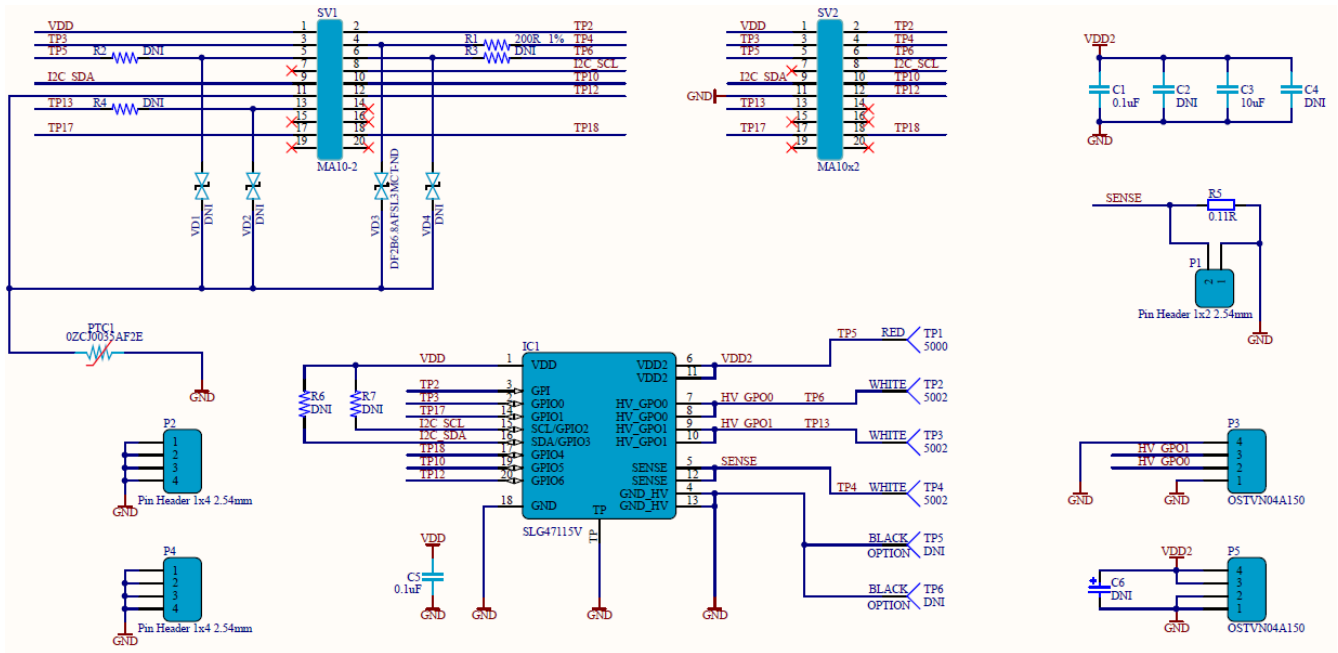

Figure 5. SLG47115V Evaluation Board Schematic
- Figure 5. SLG47115V Evaluation Board Schematic9